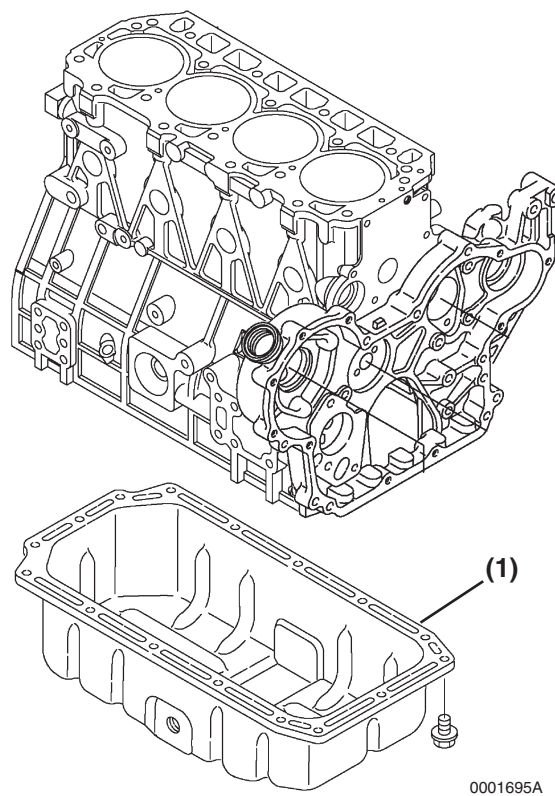

Figure 6-90
2. Remove the oil pan (**Figure 6-90, (1)**).